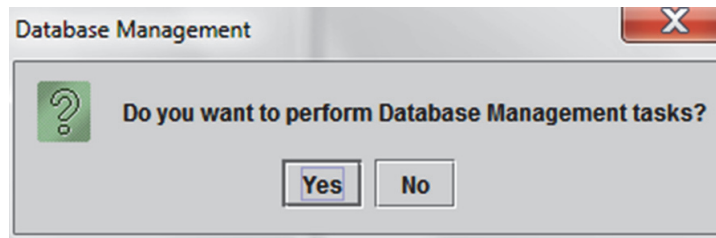
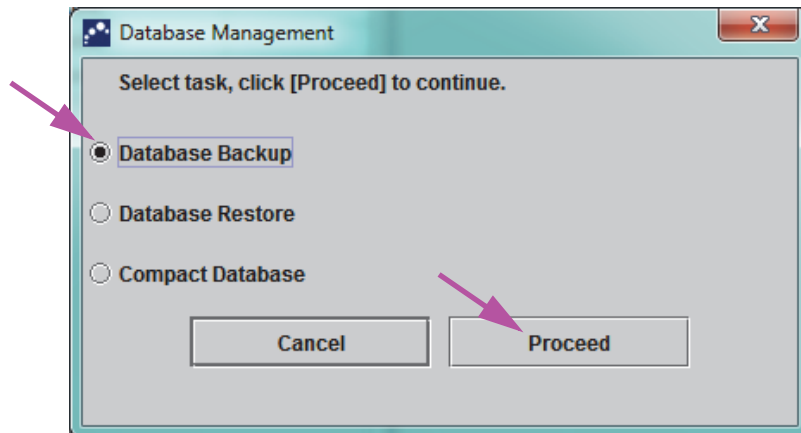

Figure 2-58. Database Management Dialog Box
Figure 2-59. Database Management Dialog Box
- If the **Database Management Reminders** box on the System Configuration dialog box (see Figure 2-39) is **not** checked, the Database Management Dialog Box (see Figure 2-58) will not appear, and no further action will be required. The software will close when the **Exit** button is clicked in Section 2.17.1, Step 3, and you can skip to Section 2.17.1.3 to complete the shutdown sequence.
- If the **Database Management Reminders** box on the System Configuration dialog screen (see Figure 2-39) is checked, the Database Management dialog box (see Figure 2-58) will then appear on top of the GeneXpert Dx System window, asking if you want to perform Database Management tasks.
- A. If you click **No** on the Database Management dialog box (see Figure 2-58), the GeneXpert Dx software closes and you can proceed to Section 2.17.1.3 to complete the shutdown sequence.
- B. Click **Yes** in the Database Management dialog box (see Figure 2-58), and you will be asked to select the task to be performed (see Figure 2-59).
Depending on the user's privileges, all (or some) of the four options in the Database Management dialog box may not be visible. See Figure 2-59.